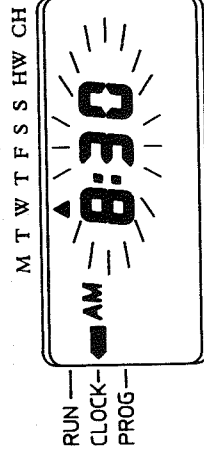

Fig. 3
- (b) Press the ENTER button and the TIME OF DAY will now flash (Fig. 3)